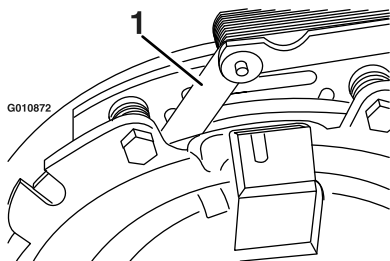

**Figure 85**
- B. Using needle-nose pliers, or by hand, hold the tab and remove the shim (Figure 85).
Remove any buildup of grass, dirt, or other debris from the engine screen. This helps ensure adequate cooling and correct engine speed and reduces the possibility of overheating and mechanical damage to the engine (Figure 85).